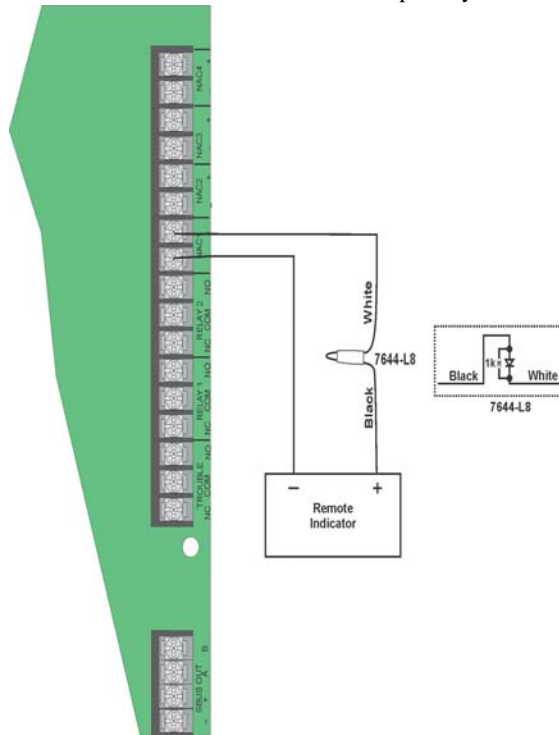

Figure 4.46 Polarity Reversal Connection Using the 7644-L8
1. Wire the 7644-L8 to the control panel as shown in Figure 4.46. Do not install an EOL resistor on the terminals of the NAC circuit used.